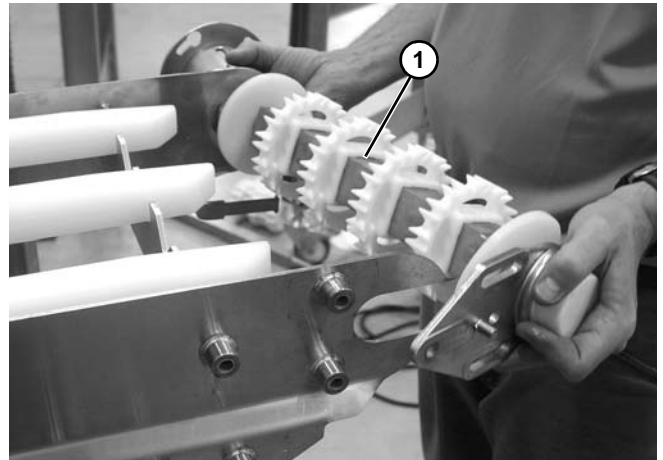

Figure 54
5. Remove drive tail assembly (**Figure 54, item 1**).